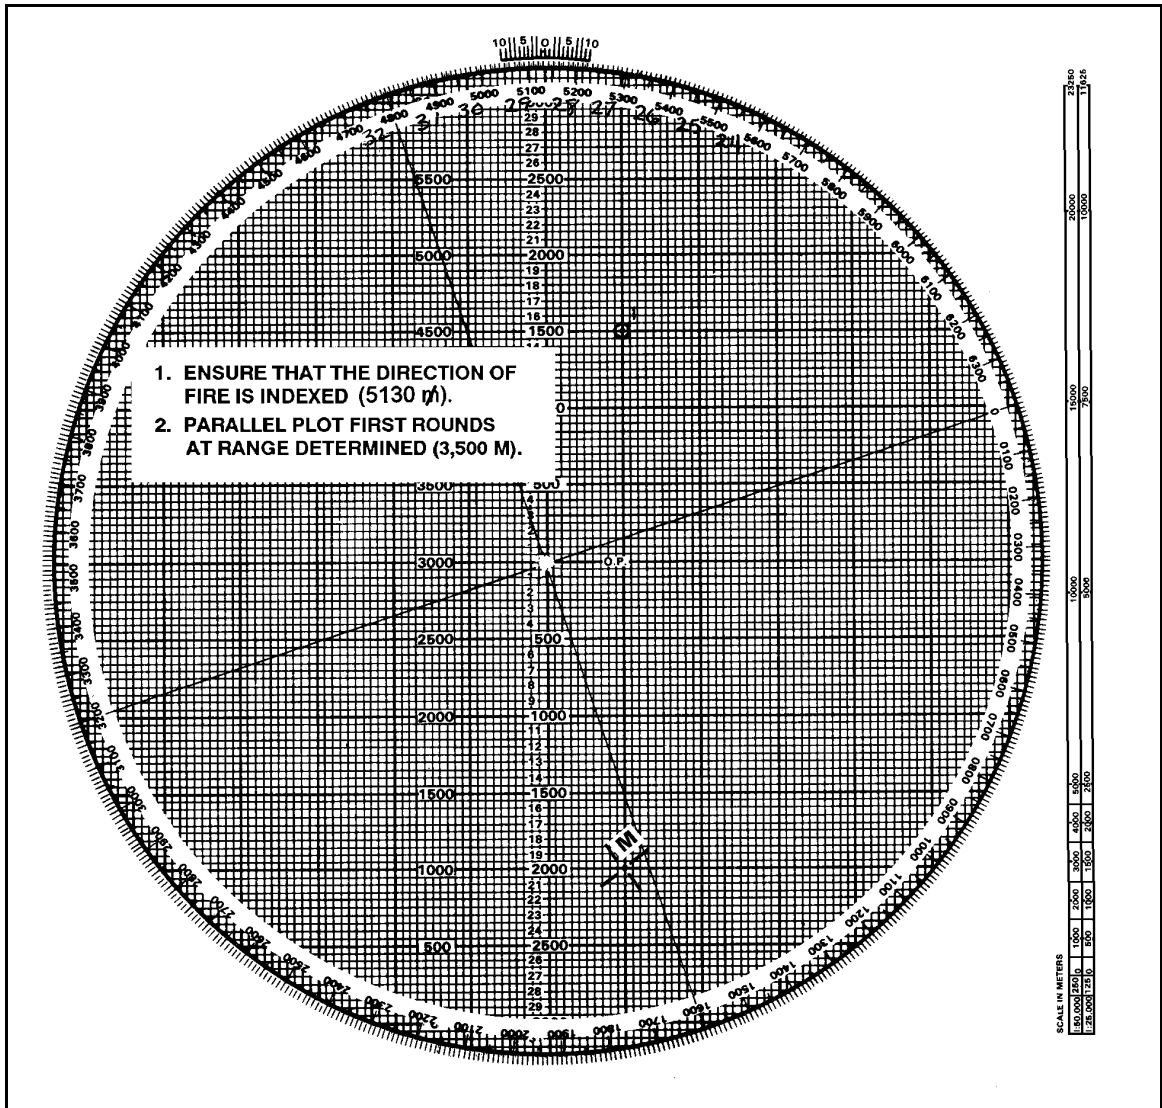

Figure 12-12. Plotting of first round.
(2) Once these actions have been taken, ensure that the azimuth disk is still indexed on the gun target azimuth. Then, from the mortar position, plot the first round at the range determined using the parallel-line method of plotting (Figure 12-12). Determine the mounting azimuth and referred deflection the same way as with the pivot-point method.